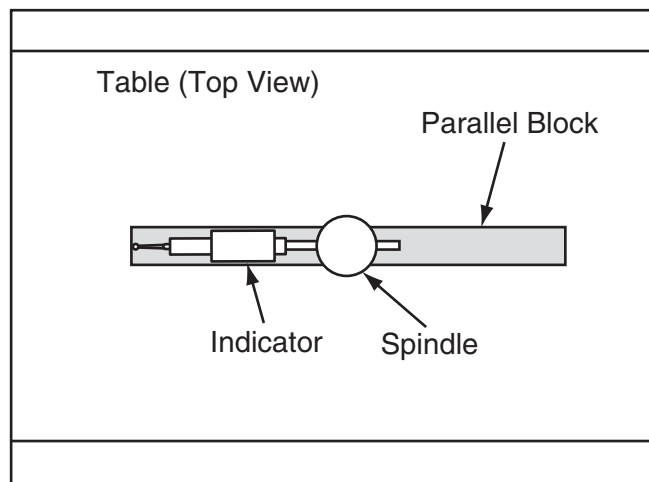

Figure 71. Parallel block and indicator positioned for the X-axis measurement (top view).
5. To measure spindle alignment along the X-axis, place the parallel block directly under the spindle and indicator across the length of the table, as illustrated in **Figure 71**.